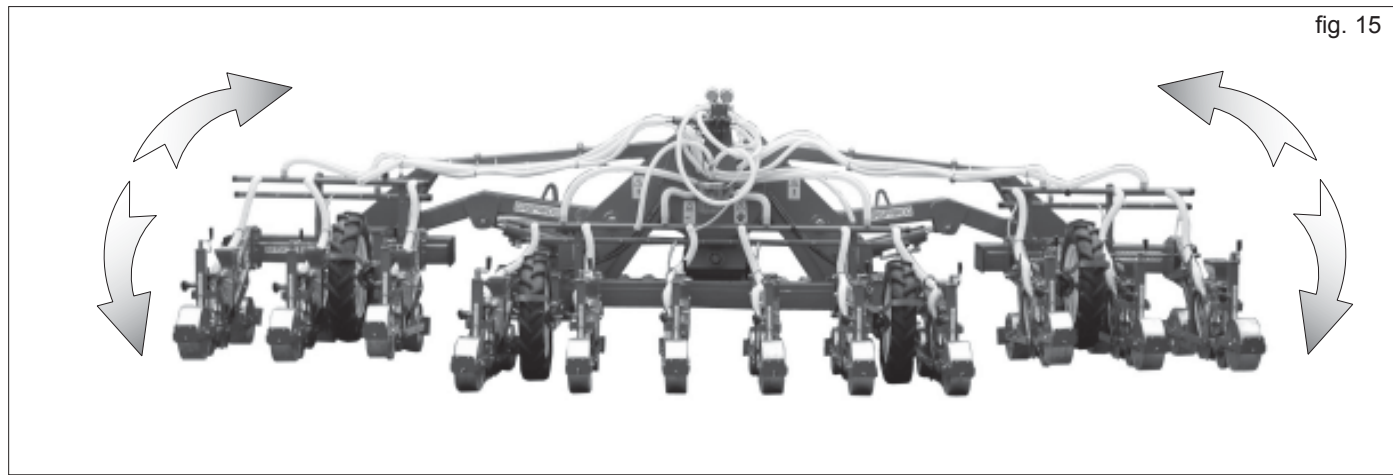

fig. 15
The machine frame is designed so that the side ends that hold the planting elements can be folded using a hydraulic system (Fig. 15), thus reducing the road.
- 6) Actuate the hydraulic system to open the frame (Fig. 15), keeping the planter raised from the ground.